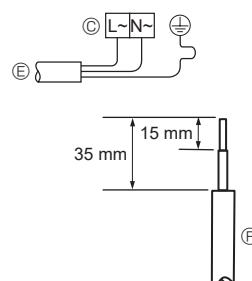
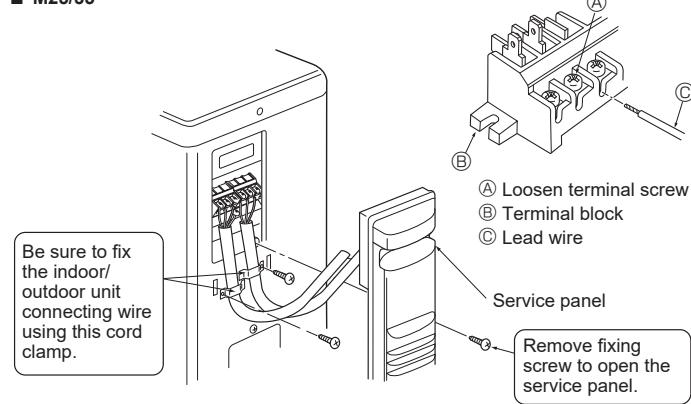
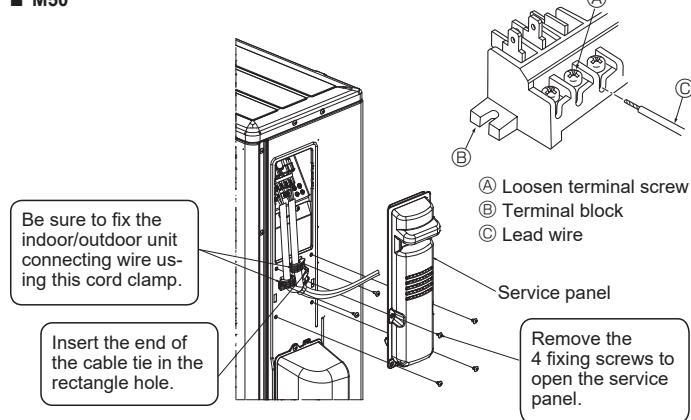
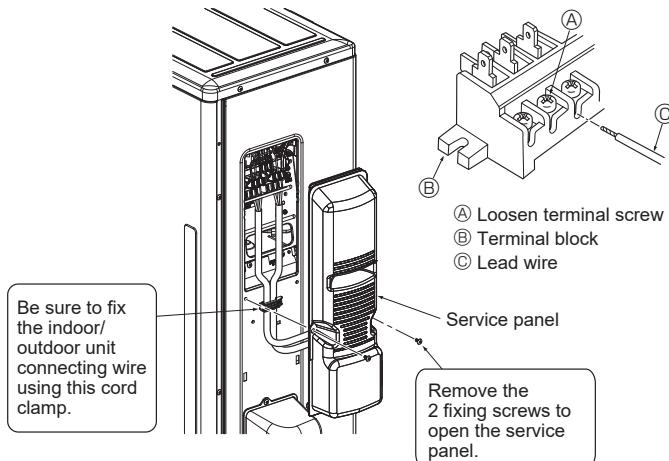

Fig. 6-2
Fig. 6-3
Fig. 6-4
Fig. 6-5
### 6.1. Outdoor unit (Fig. 6-1, Fig. 6-2, Fig. 6-3, Fig. 6-4, Fig. 6-5)
- ① Remove the service panel.
- ② Wire the cables referring to the Fig. 6-1, Fig. 6-2, Fig. 6-3, Fig. 6-4 and the Fig. 6-5.
- Perform wiring as shown in the diagram to the lower left. (Procure the cable locally) (Fig. 6-2)
- ① Connecting cable
- ② Indoor terminal block
- ③ Outdoor terminal block
- ④ Always install an earth wire longer than other cables.
- ⑤ Power supply cord
- ⑥ Lead wire